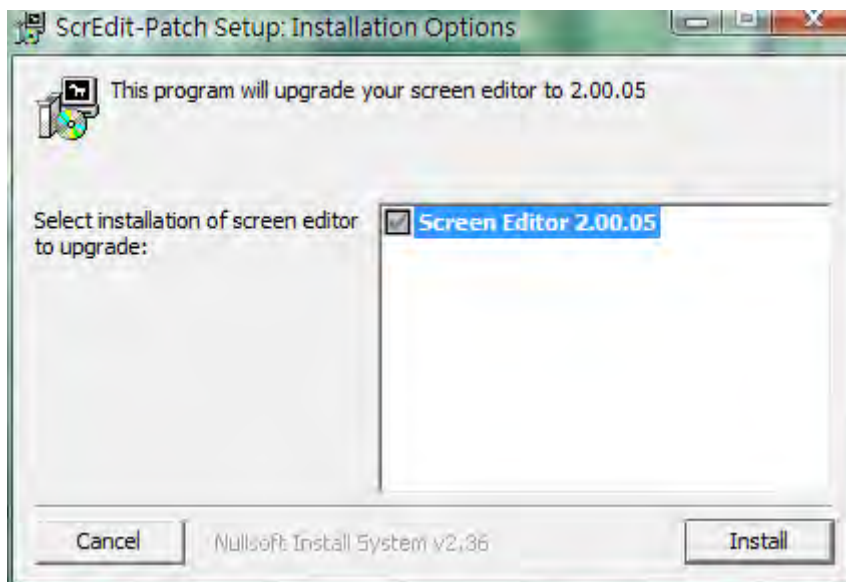

Fig. 3-1-8 Install Patch\_DOPB\_yyyymmdd
Step 1: Click Patch\_DOPB\_yyyymmdd directly under Windows and the system will start the installation (Fig. 3-1-8). The user can click **Install** button to upgrade your Screen Editor.